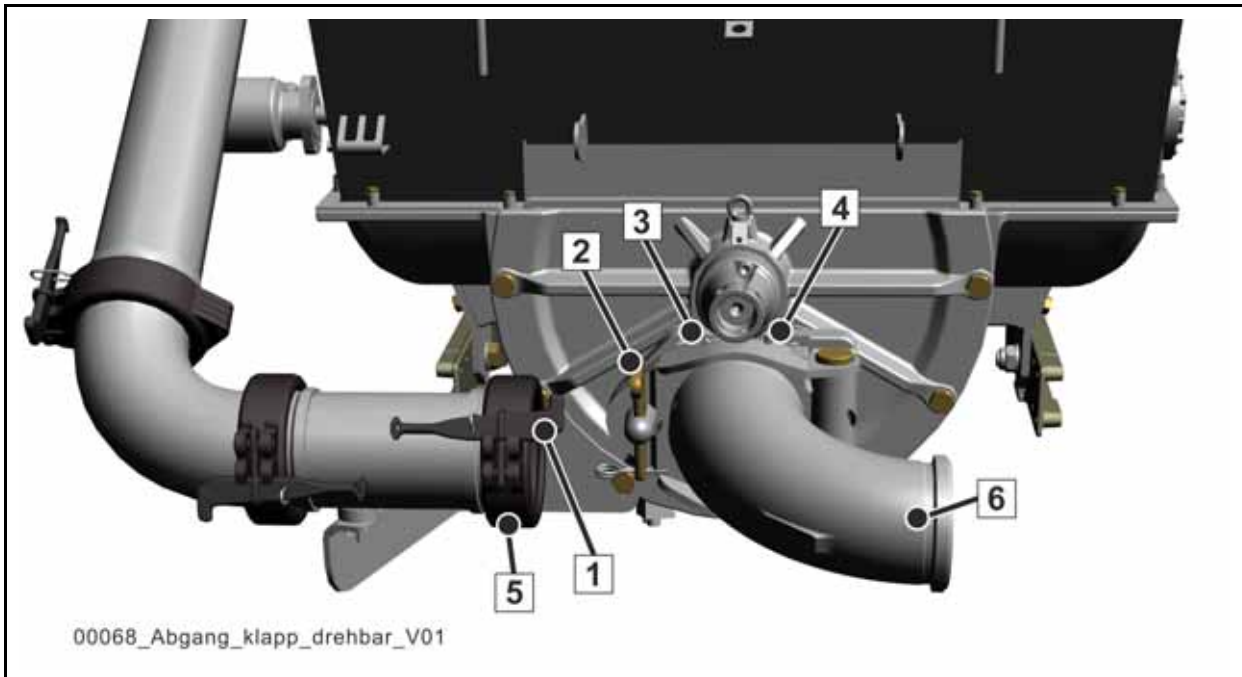

Fig. 151 Outlet, foldable and rotatable
In order to connect a separate pumping line more easily, certain SCHWING truck-mounted concrete pumps can be optionally equipped with a foldable and rotatable outlet (6; **(Fig. 151)**).
- Pull the clip pin and remove the wedge (1) and coupling (5) first
- Pull the clip pin and remove the wedge (2)
- Loosen both the safety screw (4) and the second safety screw offset by 180° by approx. half a rotation
- Rotate the foldable and rotatable outlet into the required position (e.g. 6; **(Fig. 151)**) and fold it back
- Reinsert the wedge (2), but do not hammer it in place yet
- If necessary, correct the position of the foldable and rotatable outlet and then hammer the wedge (2) down. Secure the wedge using the clip pin.
- Reattach the upper and lower safety screws (4) Connect a separate pumping line.
Once a week, squeeze some lubricating grease into the grease nipple (3) (**Fig. 151**) and into the second nipple offset by 180°.